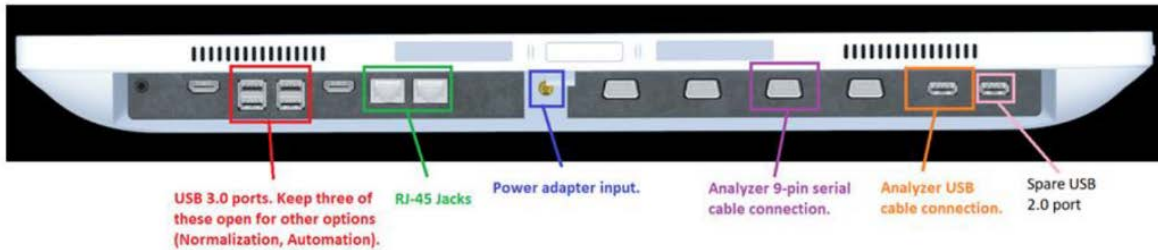

Figure 3 Controller ports (underside).
See **“Unpacking and Component Identification”** on page 16 to identify each cord, and refer to Figures 3 and 4 to identify the connectors.
(See **Figure 3**.)
- 3 A second cable (USB) connects the analyzer socket labeled "USB" to the USB port on the controller. This port must be used for proper functioning of the instrument and barcode reader. (See **Figure 3**.)